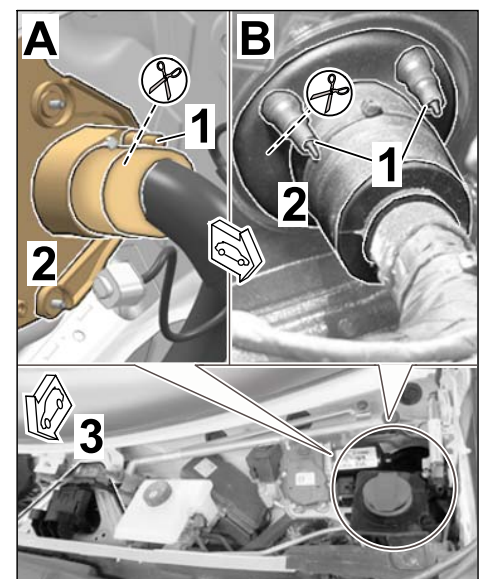

Figure 17
2.3.1 Cut off the cone (repair opening) on the grommet on the bulkhead (in the A-pillar plenum panel area – left) (⇒ Figure 17).
2.6 Seal the wire harness for engine noise at the bushing in the passenger compartment (grommet on bulkhead; A-pillar plenum panel area – left ⇒ *Figure 17*) from the inside and outside using adhesive sealant/sealing compound).